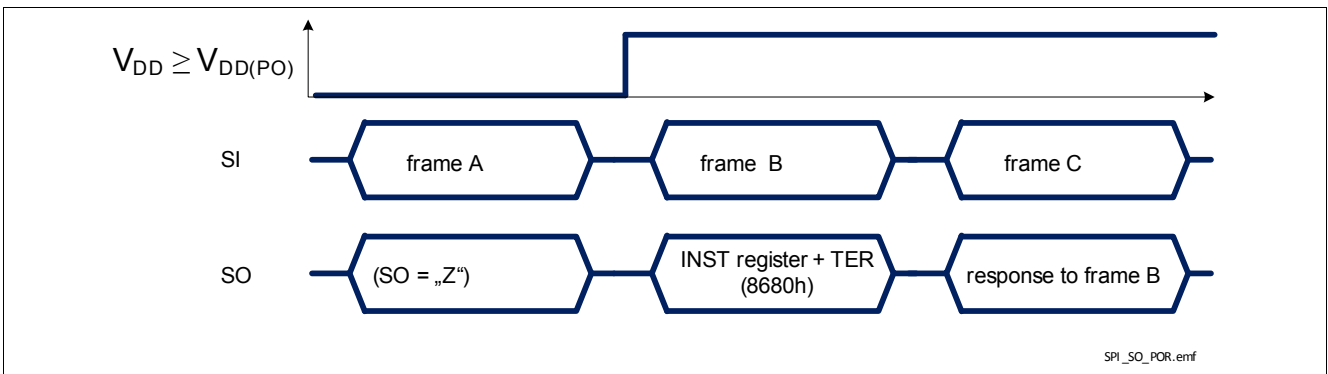

Figure 34 TLE75602-ESD response after coming out of Power-On reset at V_{DD}
- when TLE75602-ESD logic supply comes out of Power-On reset condition or after a Software Reset, as shown in **Figure 34**